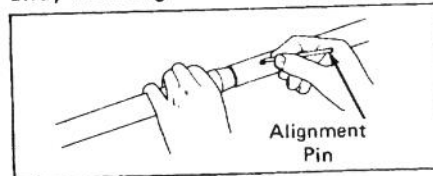

Figure 4
**NOTE:** Internal wiring may interfere with installation of capscrews. Using alignment pin (included in loose parts bag), carefully route internal wiring away from aligned holes (Fig. 4).